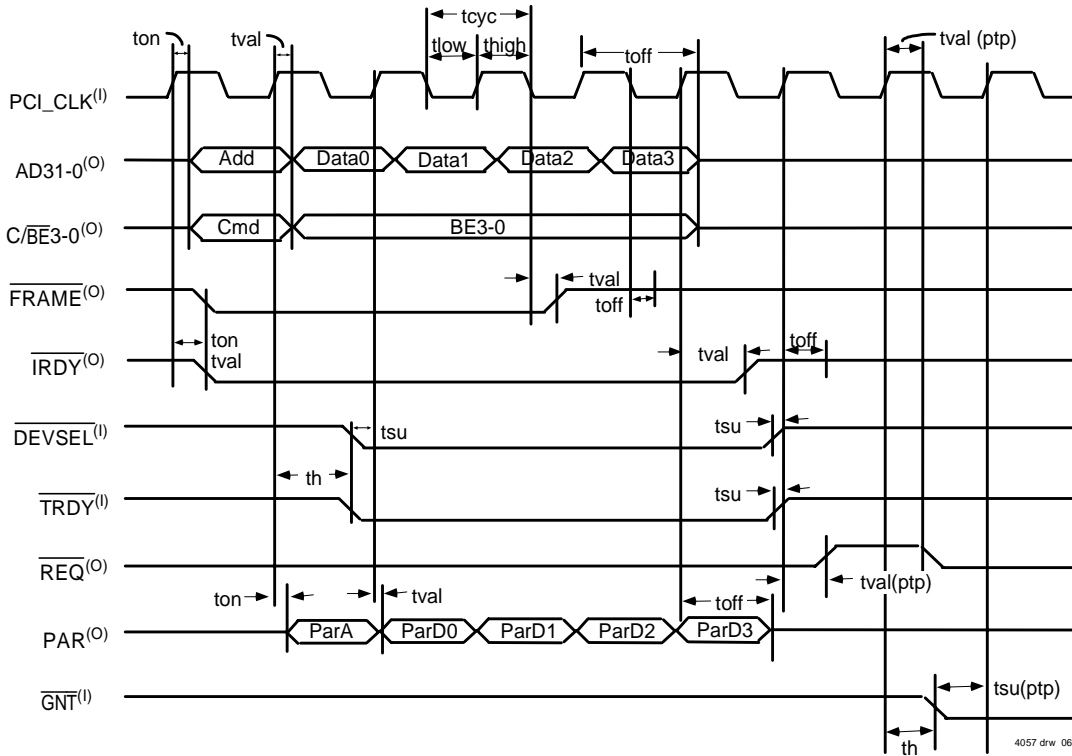

Figure 1 The ABR SAR as a PCI Master (illustrates a 4-word write by the ABR SAR to host memory)
**PCI Bus (See Figure 1 and 2)**